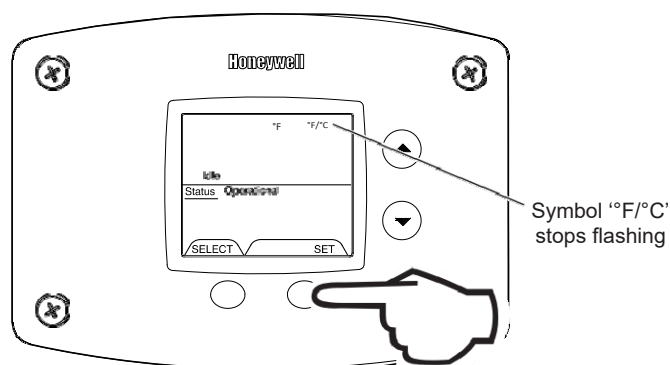

Fig. 35
4. Press 'SET' button to confirm °F or °C format. F°/ °C will stop flashing. Setpoint display will appear in the format selected (°F or °C) in 10 seconds (Fig. 35).